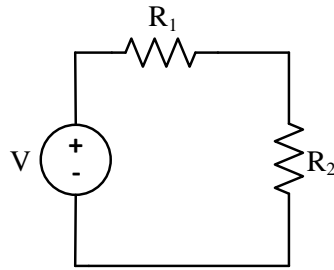

Figure 5. Voltage Divider with Two Series Resistors.
Using a breadboard, assemble the network shown in Figure 5. Using the DMM as a voltmeter, adjust the supply voltage,  $V$ , from the DC power supply, to obtain ten volts. For  $R_1$  use the resistor from step 7 which has the smallest measured value. For  $R_2$  use the resistor from step 7 which has the largest measured
9. If both resistors were exactly the nominal value, calculate what the voltage would be across each of the resistors in the circuit in Figure 5.